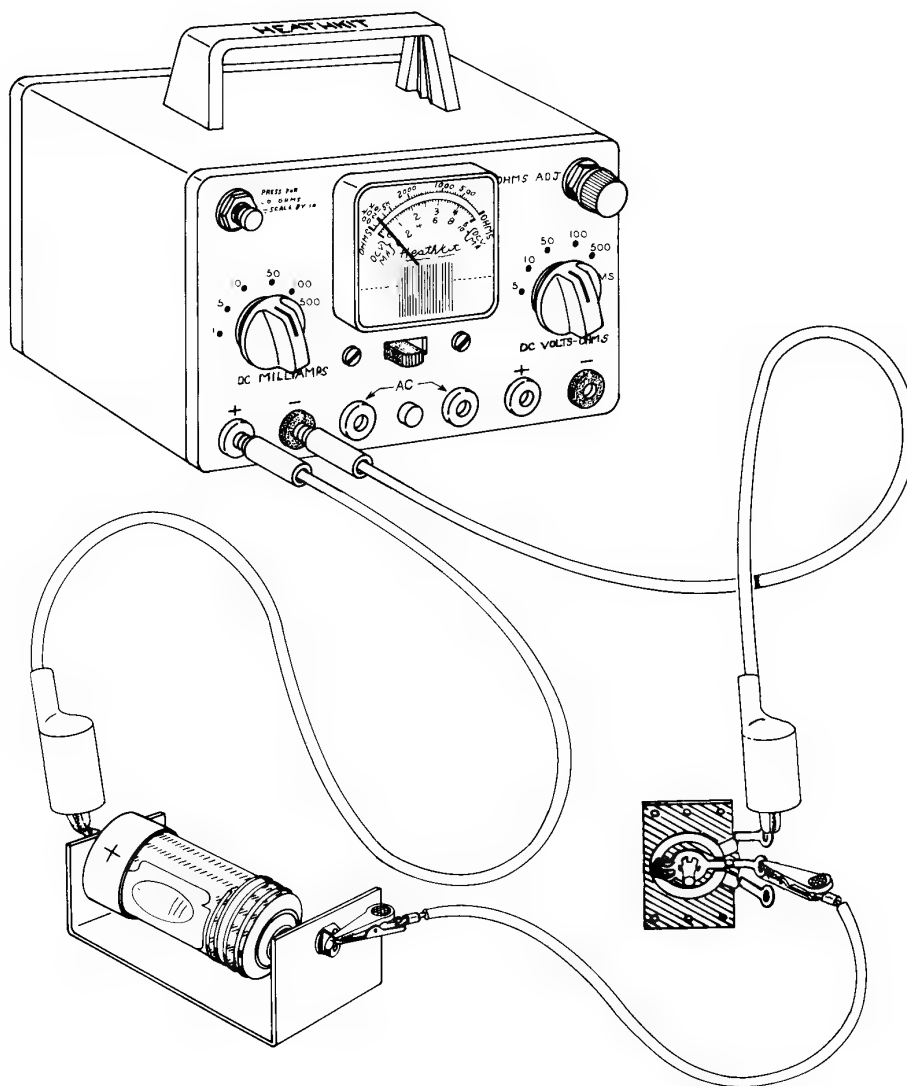

Figure 3-20
- () After making sure that the pointer knob is set at 10 ma, insert one red test lead at the red (+) banana jack and one black test lead at the black (-) banana jack. Connect the alligator clips to the test circuit, Figure 3-20, and vary the load (control), reading the current on the 10 ma scale.